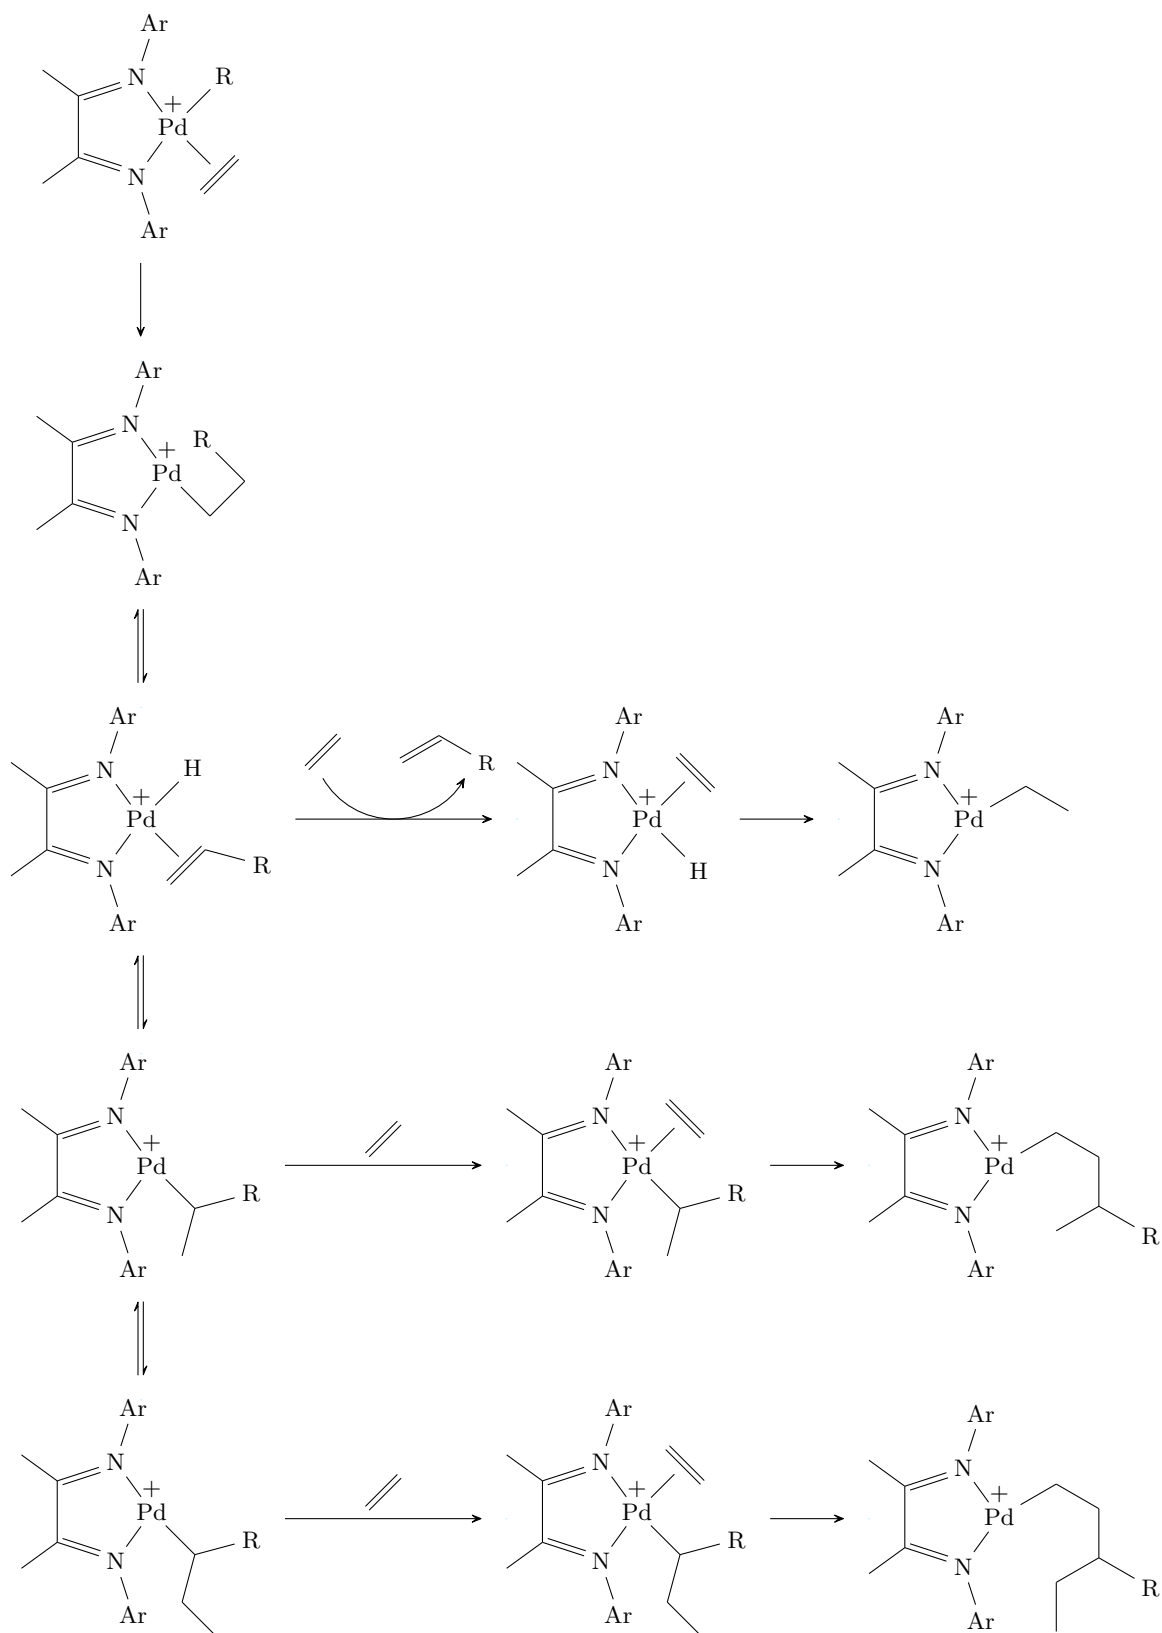

Figure 5.7: Polymerization with Brookhart catalysts.
- Brookhart type nickel- and palladium-based polymerization catalysts are introduced in Section 11.3.3 of the text. These catalysts differ from metallocene catalysts in that (1) the resting state is the (diimine)MR(ethylene)+ adduct 1, (2) chain walking is much faster than chain growth, (3) ethylene insertion into secondary alkyl metal species is fast, and (4) a hyper branched polyethylene is produced (ca. 100 branches at 1000 °C).
- A mechanism for polymerization showing how branches are formed (see Figure 5.7).
- It's Zr(IV) as a cation.
- Palladium(II) is d^8 and soft, while zirconium(IV) is d^0 and hard. While both are poor backbonders, the soft character of the former leads to stronger metal olefin coordination. This enables β -H elimination of (diimine)PdCH₂CH₂R⁺ to form (diimine)PdHCH=CHR⁺ to compete with trapping by ethylene to form the resting state, and thus enables chain walking to compete with growth.